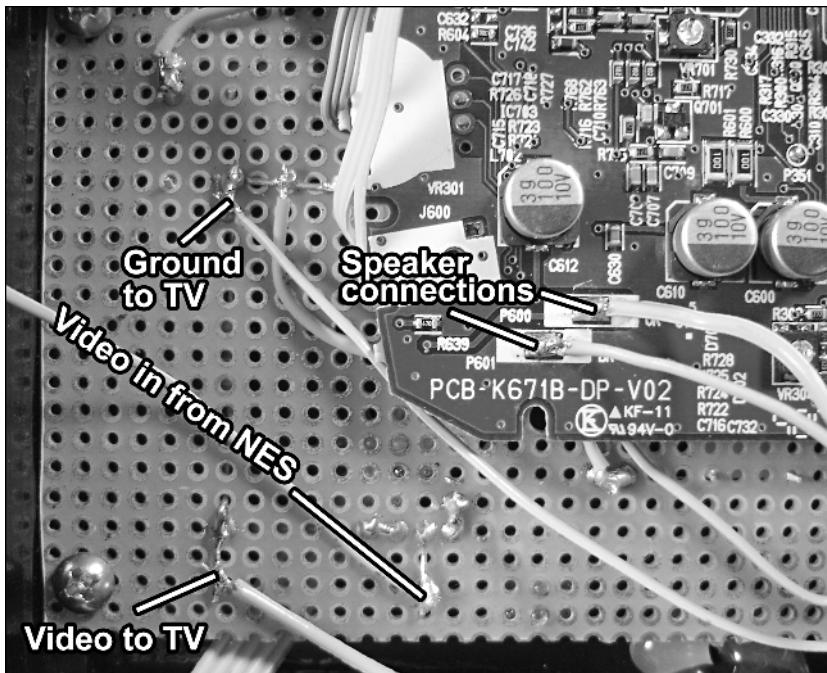

FIGURE 8-35: Connecting the TV to the control board.
5. We now need to make a few connections to the control board, as seen in Figure 8-35. Connect the TV's *video* and *ground* to the spots shown. Attach a 10" wire to the spot marked *video in from NES*. Finally, attach the two speaker wires to the TV board.